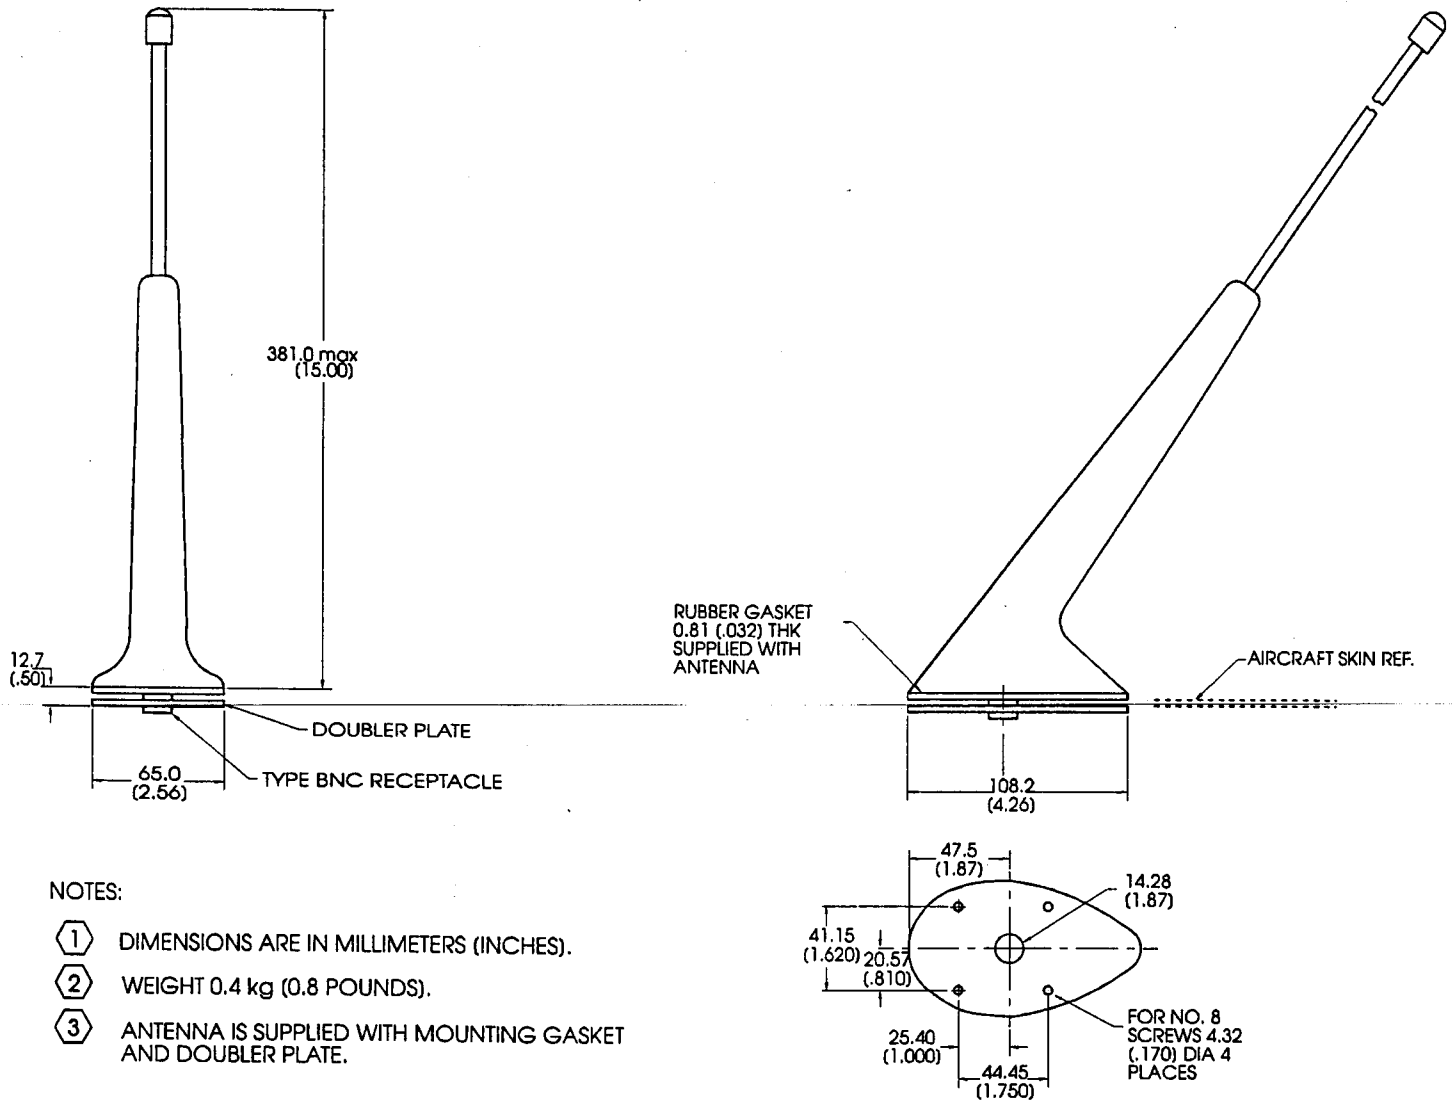

Figure 4, ANT-251 Antenna, Outline and Mounting Dimensions
a. Select a suitable location for antenna mounting using the template shown in the outline and mounting dimensions drawing, figure 4. The ANT-251 may be installed on either the top or bottom of the aircraft where ground clearance warrants.